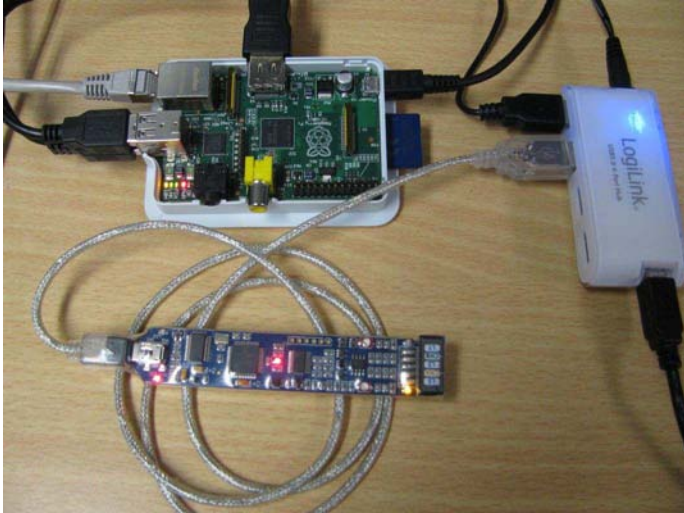

Figure 1: Connecting the BitScope Micro to your Raspberry Pi via USB
4) When the installation procedure has finished, connect the BitScope Micros USB port to the Raspberry Pi as shown in Fig. 1. You will need a powered USB hub to do so, because normally both USB ports of the Raspberry Pi are in use for the keyboard and the mouse.